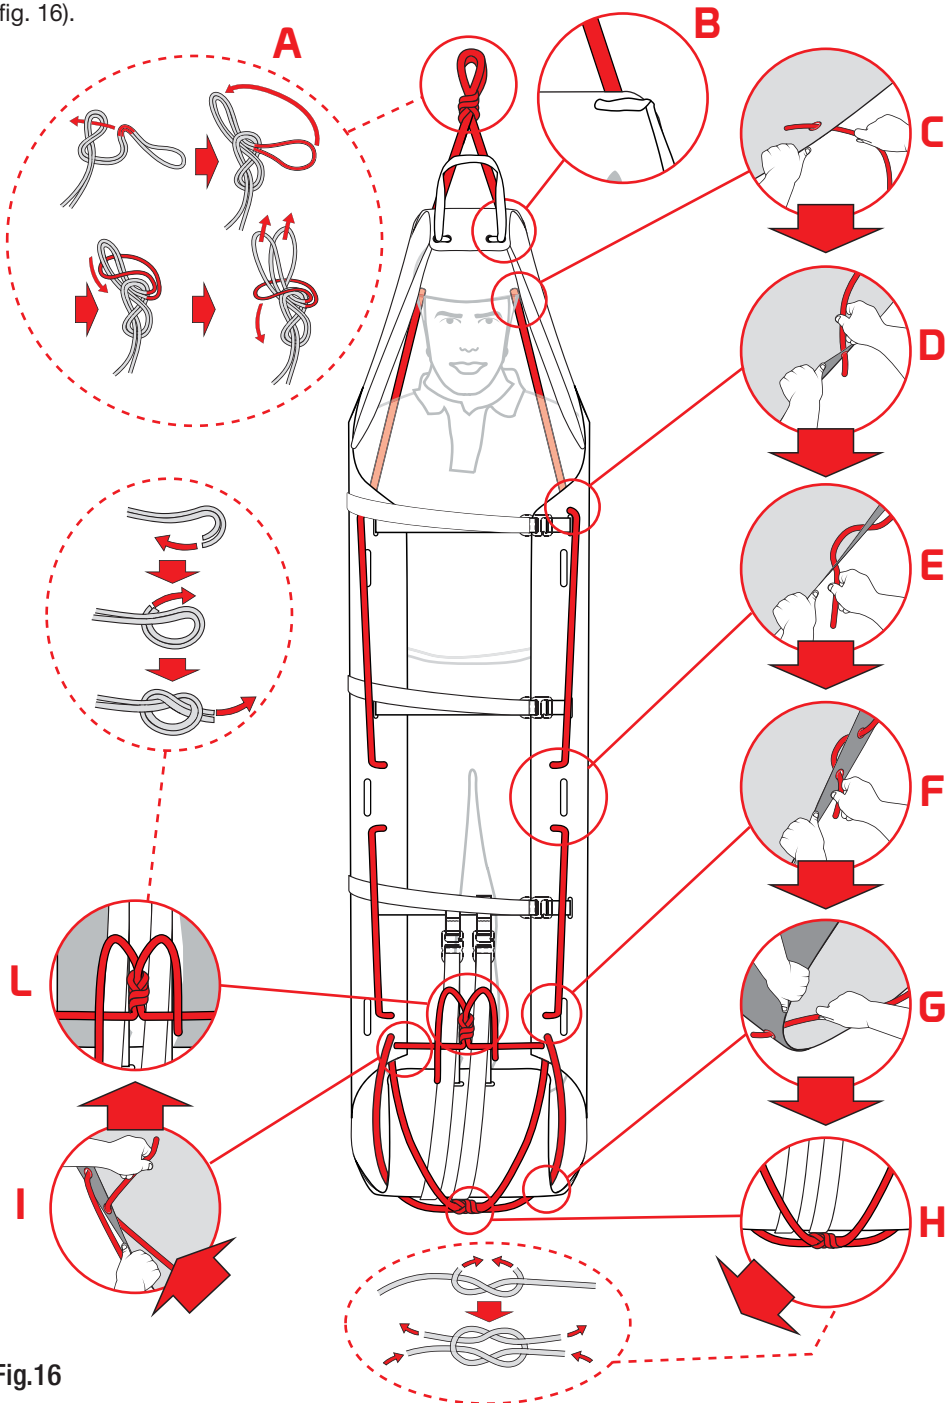

Fig.16
c) lifting/lowering or vertical lowering: insert the rope (H) in the holes A8 in the support surface (fig. 16).